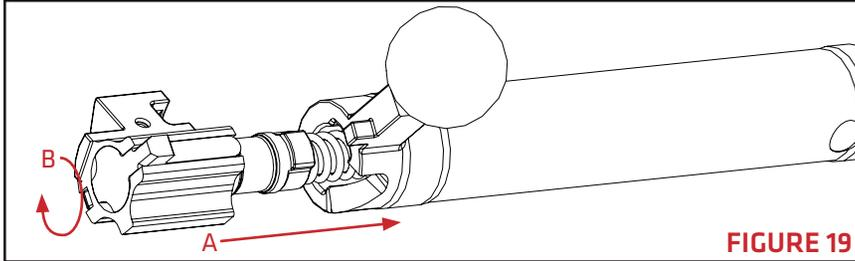

FIGURE 19
**NOTE: IF THE COCKING PIECE LEVER BECOMES DECOCKED WHILE REMOVED FROM THE BOLT BODY, INSERT THE FIRING PIN ASSEMBLY BACK INTO THE BOLT TUBE (FIGURE 19-A). MANUALLY COMPRESS THE FIRING PIN SPRING AND ROTATE THE COCKING PIECE SHROUD BACK INTO THE ASSEMBLED/COCKED POSITION (FIGURE 19-B).**